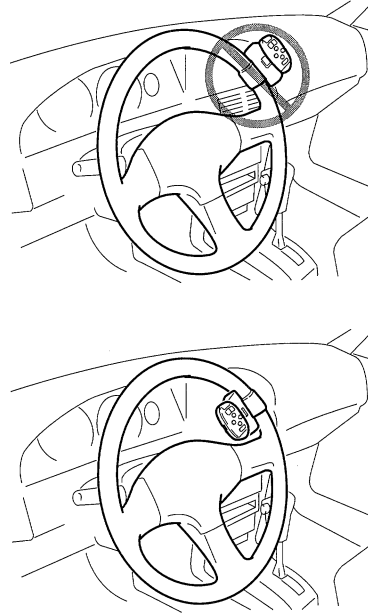

Fig. 9
- Do not attach this unit to the outer circumference of the steering wheel. Otherwise, it disturbs driving stability, causing a traffic accident. Always attach this unit to the inner circumference of the steering wheel as shown. (Fig. 9)